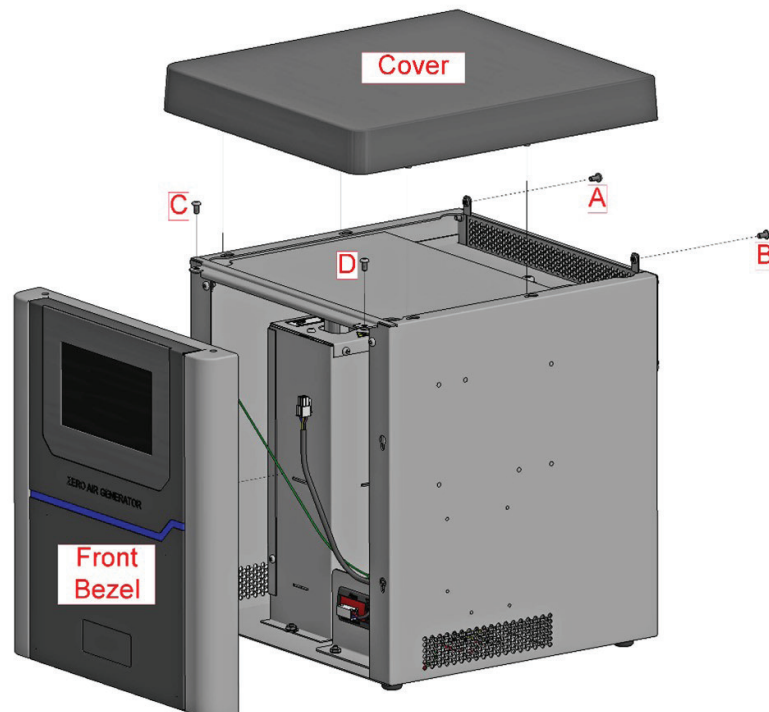

Figure 7 - Removing Cover and Front Bezel
In order to replace the catalyst module, it is necessary to remove the cover of the ZAG unit, the internal heat shield, and the front bezel. Refer to Figure 7 and 8 and use the 1/8 in. allen wrench (supplied with maintenance kit) to remove the necessary screws.
1. Referring to Figure 7, first remove the cover by removing the screws located at locations A and B using the 1/8 in. allen wrench. Gently slide the cover to the rear (approx. 1/4 in.) and lift up while keep the cover horizontal.
2. Referring to Figure 7, secondly, remove the front bezel by removing the screws located at locations C & D. Gently lift the bezel up slightly (approx. 1/4 in.) and move forward until the bezel comes free. Carefully lean the front bezel against the right side of the unit.